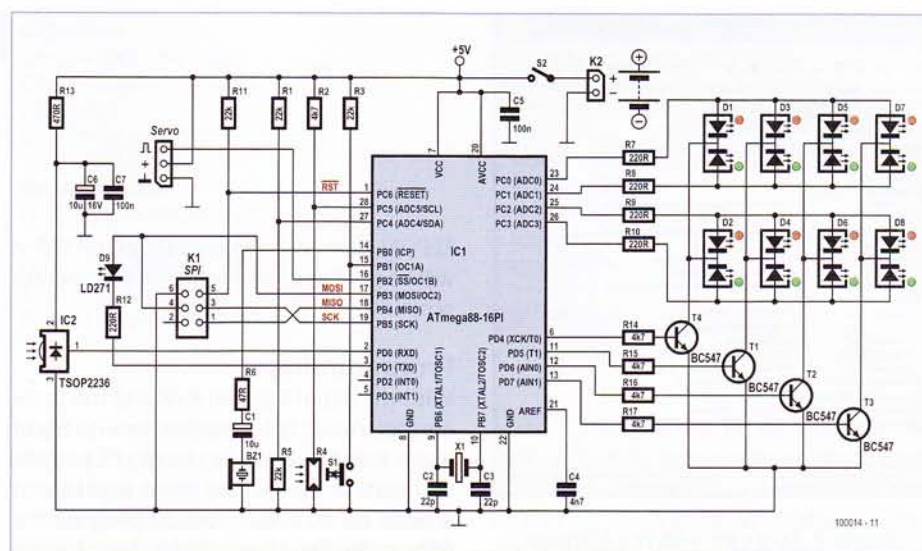

Figure 1. The schematic for the Firefly is quite minimal. There is nevertheless a type of intelligent communication.
infrared (IR) signal. This is done with the circuit shown in **Figure 1**. You use the serial output of the microcontroller, so that you can simply use the *print x* command in the software program. You then take a separate output of the processor and use it to generate a 36-kHz square wave. You connect the IR transmitter diode between these two outputs. In this way you generate a serial RS-232 signal that is modulated at 36 kHz. To be able to receive this signal you take a special IR-receiver, type SFH 5110. The special attribute of this receiver is that it has a 36-kHz filter built in, creating a nice RS-232 signal that you can connect directly to the serial input of our microcontroller. If you use a somewhat slow communication speed (2400 baud in our case), then you can establish some very effective communications between multiple robots.